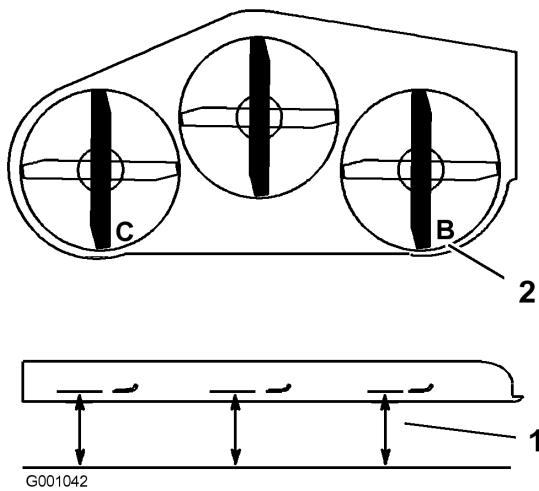

Figure 70
1. Position the right blade front-to-rear (Figure 70).
2. Measure the right blade at the **B** location, from a level surface to the cutting edge of the blade tip (Figure 70).
4. Position the left blade front-to-rear (Figure 70).
5. Measure the left blade at the **C** location (Figure 70), from a level surface to the cutting edge of the blade tip .